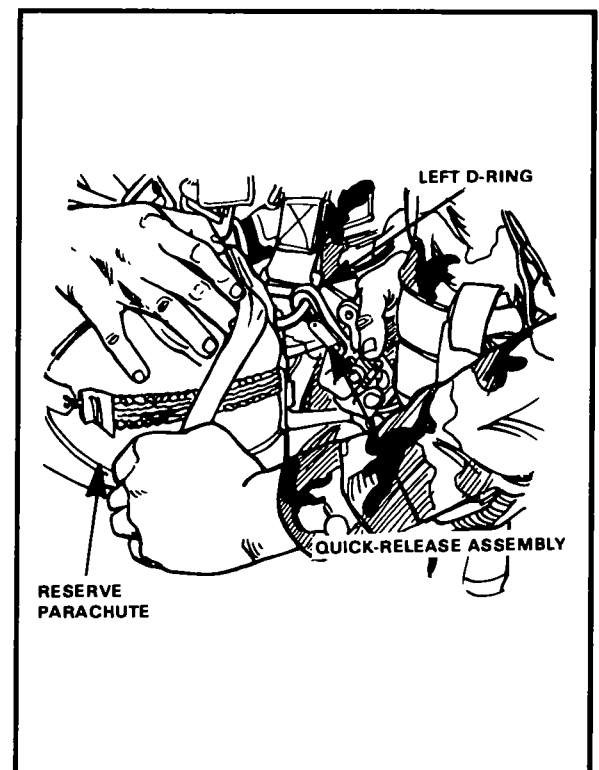

Figure 6-43. DMJP attached.
- a. The DMJP is secured to the parachutist by attaching the quick-release assembly to the parachutist's left D-ring as the outermost item (Figure 6-43).